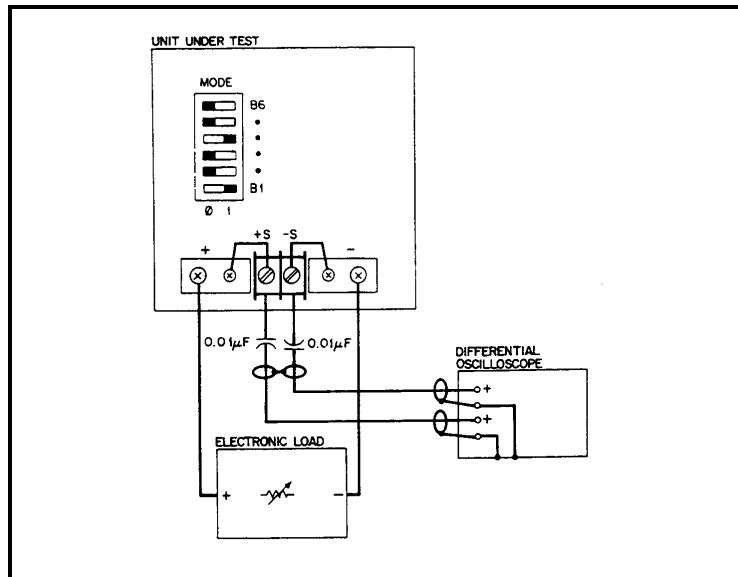

Figure 2-5. Peak-To-Peak Measurement Test Setup, CV PARD Test
Peak Measurement Procedure. Figure 2-5 shows the interconnections of equipment to measure PARD in Vpp. The equipment grounding and power connection instructions of PARD rms test apply to this setup also. Connect the oscilloscope to the + OUT and - OUT terminals through 0.01 μF blocking capacitors to protect the oscilloscope's input from
- a. Connect the test equipment as shown in Figure 2-5. Operate the load in constant resistance mode (Amps/Volt) and set resistance to maximum.